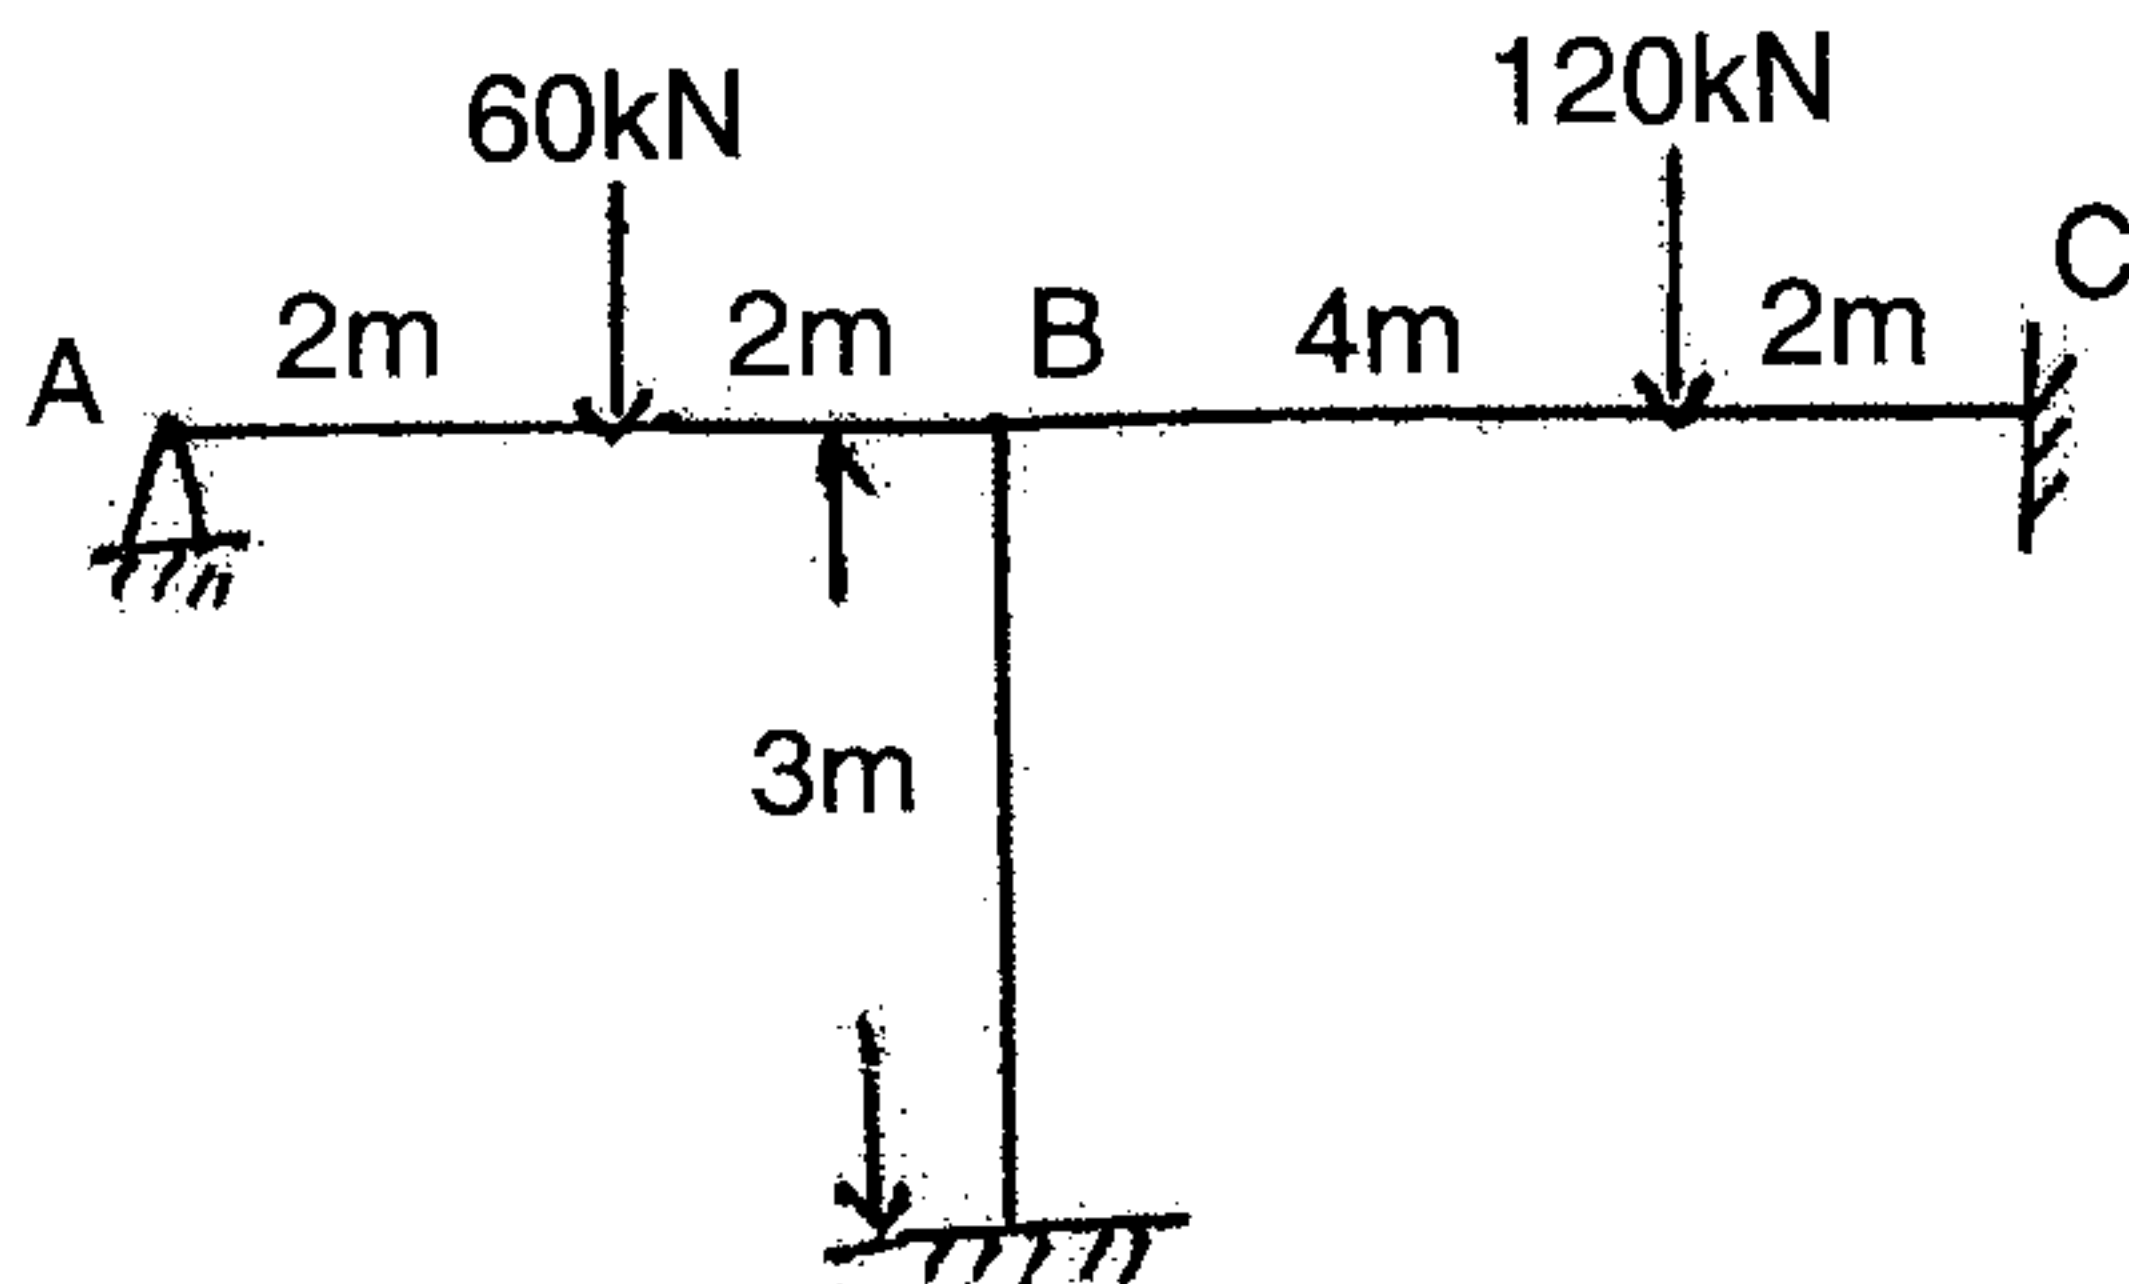

Fig. 5
11. Analyse the frame shown in Fig. 5 by equilibrium method. All members have the same flexural rigidity. Draw SFD and BMD.